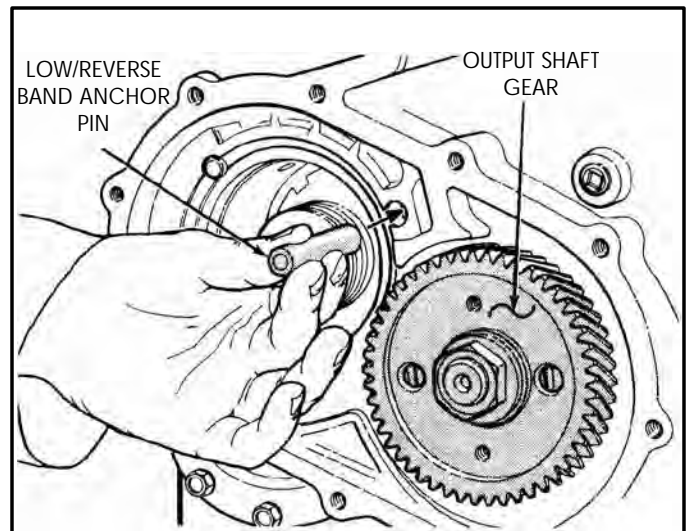

Figure 123
8. Remove the low/reverse band anchor pin from case, as shown in Figure 123.